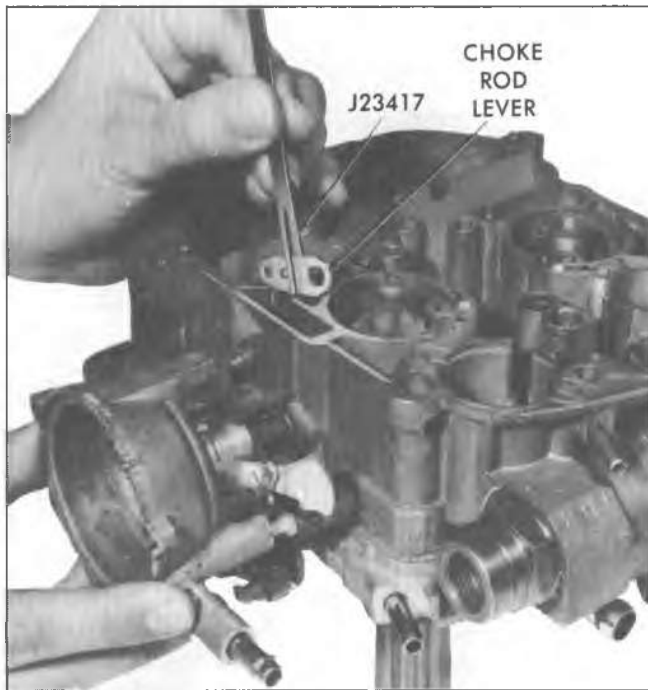

Fig. 6C-54--Installing Choke Rod Lever
4. Install fast idle cam onto the intermediate choke shaft (steps on fast idle cam face downward) (Fig. 6C-50).
6. Using Tool J-23417, install lower choke rod lever into cavity in float bowl. Install plastic tube seal into cavity on choke housing before assembling choke housing to bowl. Install choke housing to bowl sliding intermediate choke shaft into lower choke lever (Fig. 6C-54).